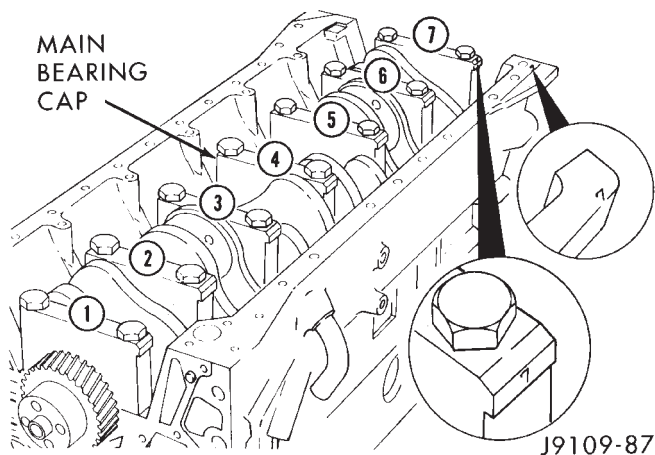

Fig. 81 Numbering Main Bearing Caps
- (1) Remove the rear crankshaft seal housing.
- (2) Remove the gear housing.
- (3) Rotate the engine to a horizontal position and remove the main bearing bolts.
- (4) The main bearing caps should be numbered. If they are not, be sure to mark them, beginning with number one at the front and ending with number seven at the rear (Fig. 81).